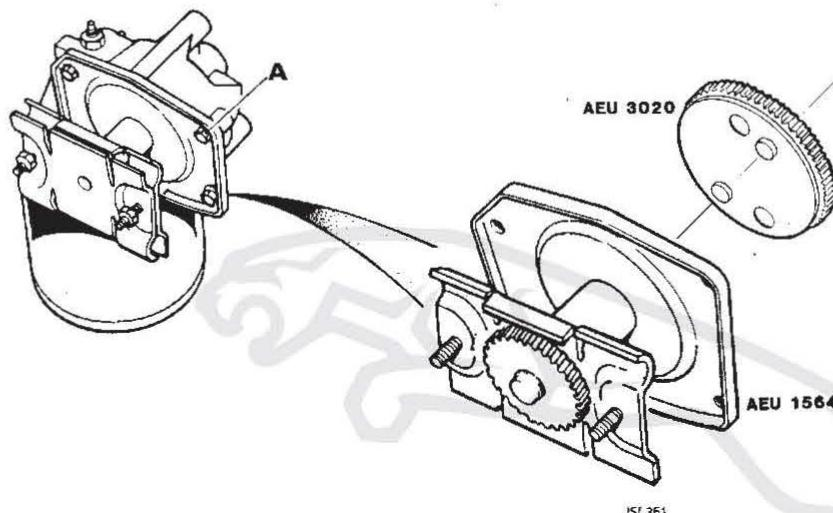

FIG 11
10. Remove the four screws securing the wheelbox to the motor (A Fig 11).
11. If the drive gear, AEU 3020 (Fig 11) is to be renewed it should be done prior to the refitting of the wheelbox.
12. Refit or renew the wheelbox AEU 1564 (Fig 11), securing with the four screws.